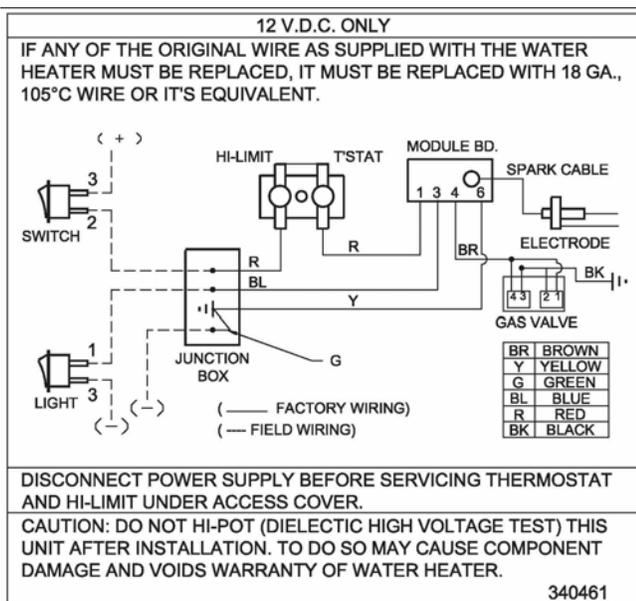

Figure 7
- D. Make the 12 Volt D.C. electrical connections following the wiring diagram illustrated in Figure 7.